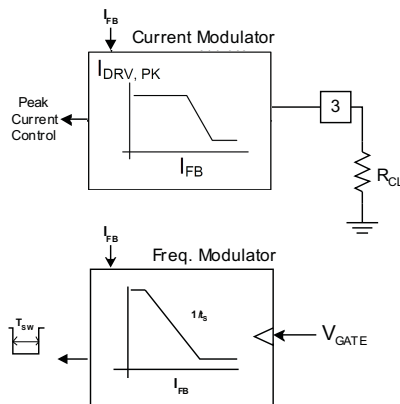
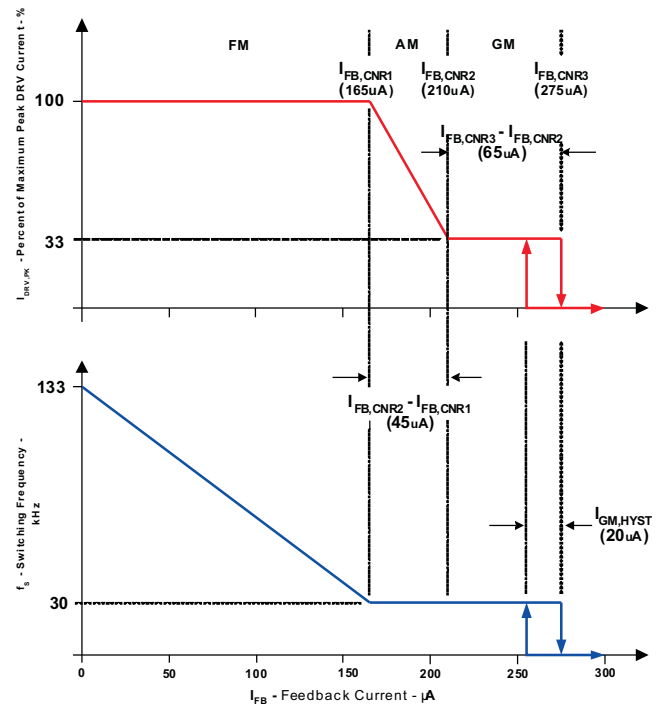

Figure 25. Modulation Control Blocks
Figure 26. Control Diagram with Operating Modes
Under normal operating conditions, the FB current commands the operating mode of the UCC28610, as shown in Figure 25 and Figure 26. The FB current commands the UCC28610 to operate the converter in one of three modes: Frequency Modulation (FM) mode, Amplitude Modulation (AM) mode, and Green Mode (GM).
The converter operates in AM mode at moderate power levels (2.5% to 23% of the peak regulated power). The FB current regulates the output voltage by varying the peak HVMOSFET current from 33% to 100% of the maximum programmed value while the switching frequency is fixed at approximately 30 kHz. The UCC28610 modulates the voltage on the CL pin from 3 V to 1 V to vary the commanded peak current, as shown in Figure 25 and Figure 26.